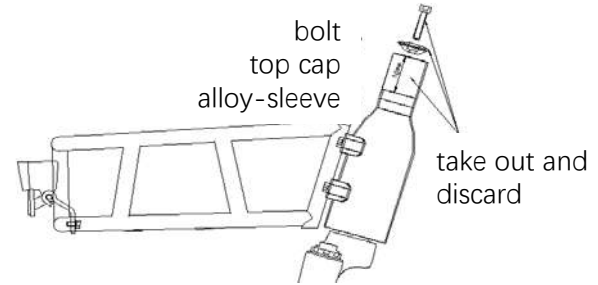

Figure 9.
1. Remove the bolt on the fork with the 5 mm Allen key, then take off the top cap and alloy-sleeve and discard them, as shown in Figure 9.